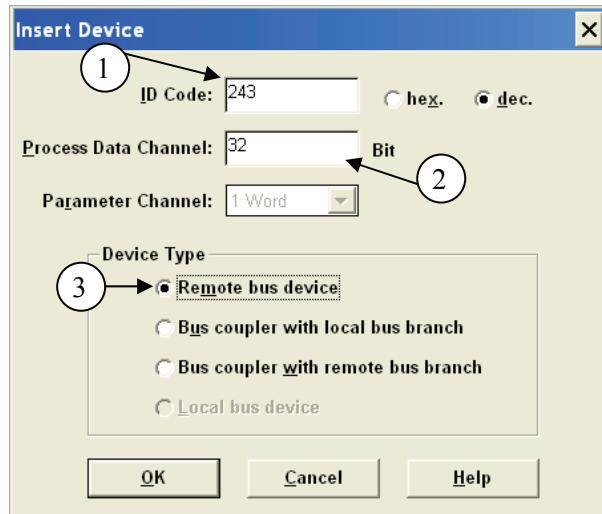

Figure 24 Entering the device ID code.
**Note:** If the name of the parameter is not shown as above the Get-OD (Long format) has not been enabled, please see Figure 24 Entering the device ID code.